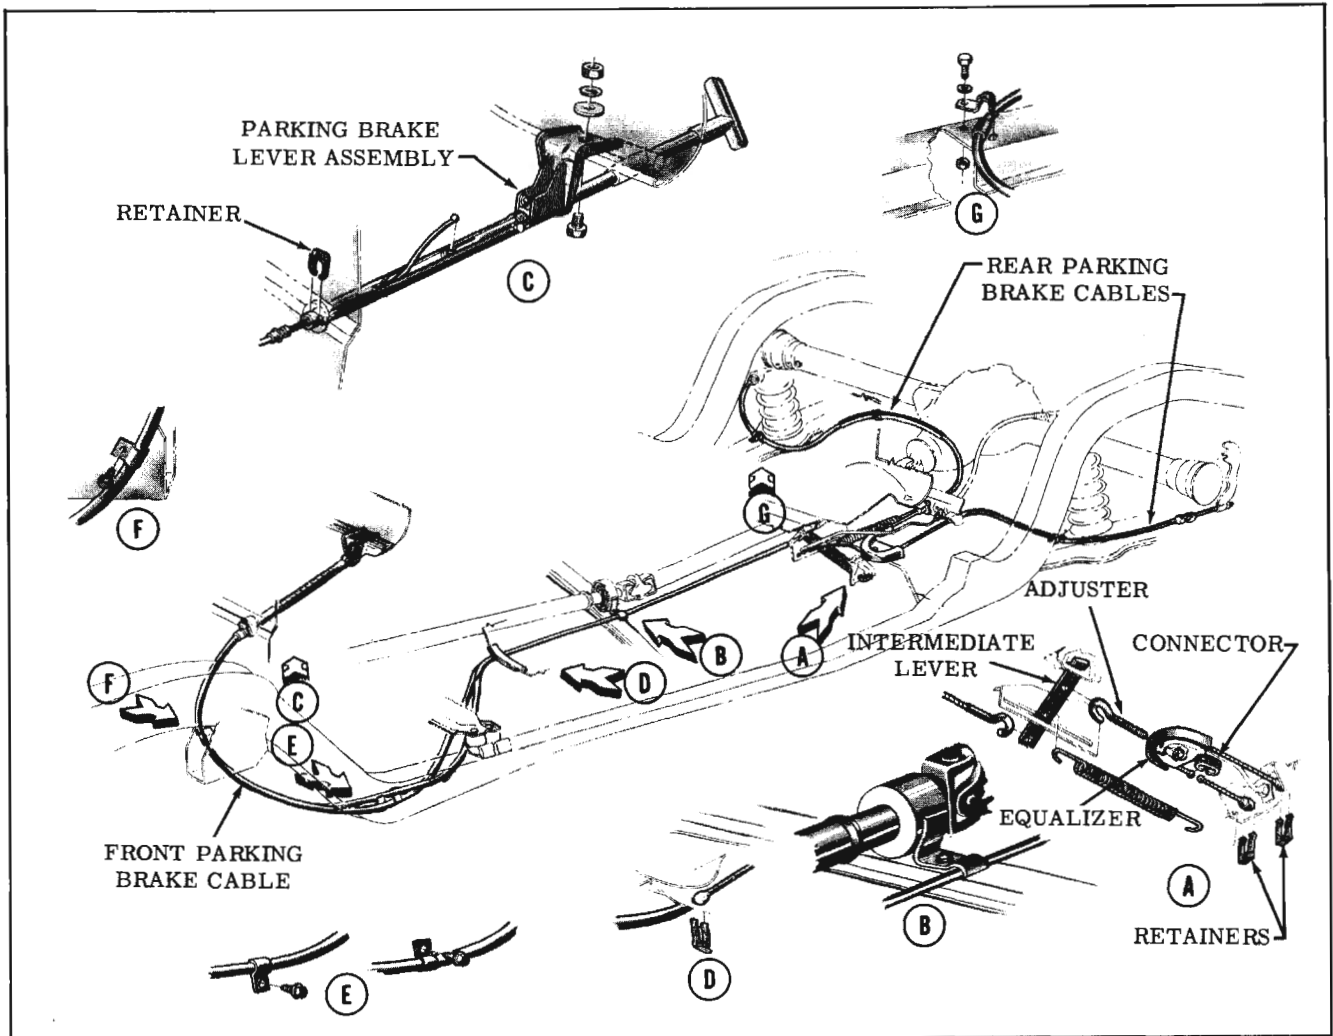

Fig. 7-107 Parking Brake Layout
3. Adjust rear cables by first tightening the equalizer adjusting nut until rear wheels cannot be turned freely, then loosen the equalizer adjusting nut nine full turns. (Fig. 7-107)
1. Disconnect intermediate lever return spring. (Fig. 7-107)
3. Loosen propeller shaft center bearing support at cross member. ("B" in Fig. 7-107)
4. Remove cable clips at points "E" and "F", Fig. 7-107.
Tighten equalizer adjusting nut until rear wheels cannot be turned freely, then loosen the adjusting nut nine (9) full turns. (Fig. 7-107)
1. Loosen nut at equalizer. Remove equalizer for left hand cable removal. Remove retainer clips from left and right hand cables at body bracket ("A" in Fig. 7-107) Remove right hand cable clamp from lower right suspension arm. ("G" in Fig. 7-107)